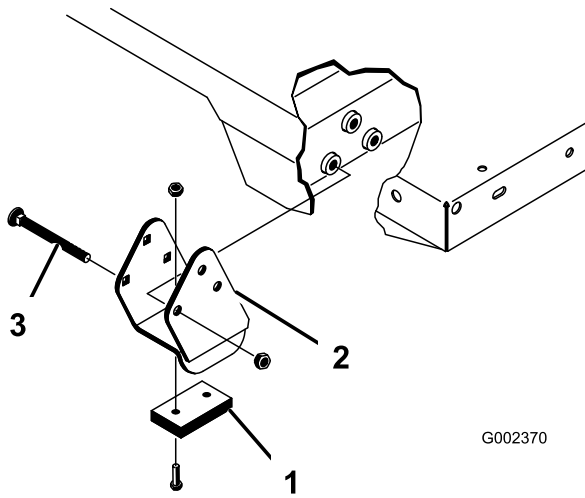

Figure 32
Ensure that the spacer brackets and wear blocks (Figure 32) are installed with the carriage-bolt heads positioned inside the machine.
2. Carefully set the bed onto the machine frame, aligning the rear bed pivot-plate holes with the holes in the rear frame channel, and install the 2 clevis pins and lynch pins (Figure 32).
4. Insert the clevis pin from outside of the bed with the lynch pin oriented toward the outside (Figure 32).